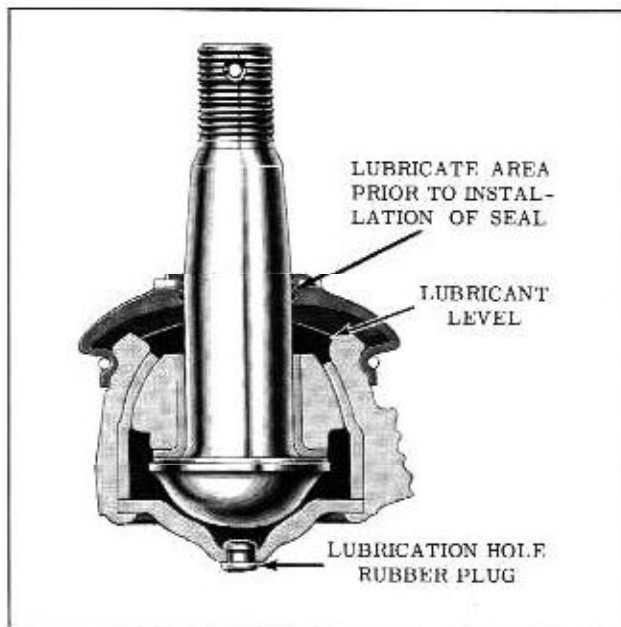

Fig. 5-4 Ball Joint Assembly
9. The saw tooth area of the seal that fits around the ball stud should be coated with Ball Joint Grease. (Fig. 5-4)